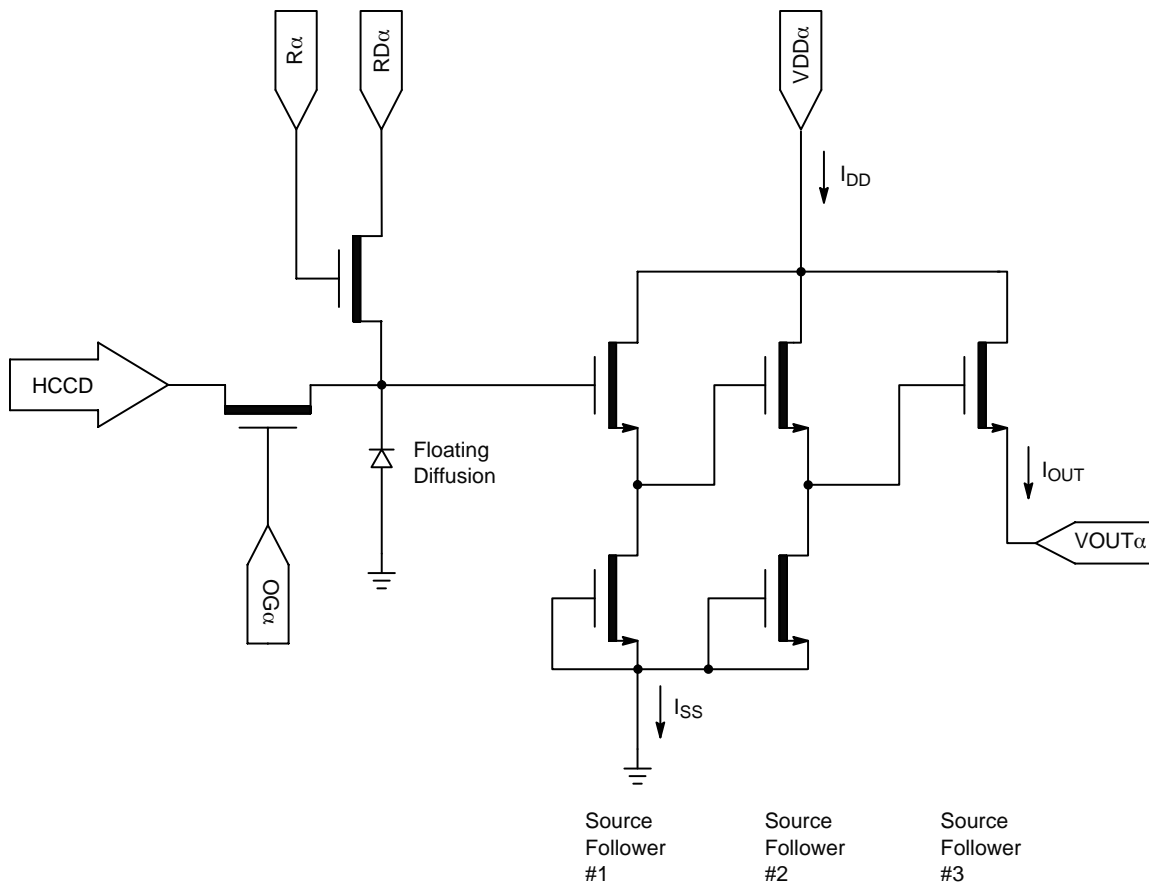

Figure 21. Output Amplifier
2. The maximum DC current is for one output.  $I_{DD} = I_{OUT} + I_{SS}$ . See Figure 21.